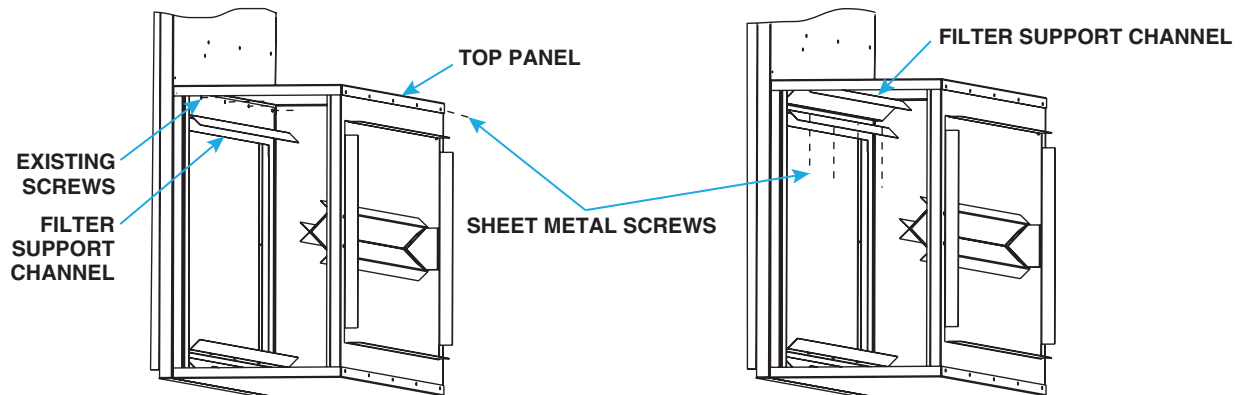

Figure 18. Install Rear Inlet Filter Cabinet on Heater
3. Install top panel, filter support channel, and filter support and secure filter cabinet to heater cabinet as shown in **Figure 18**: